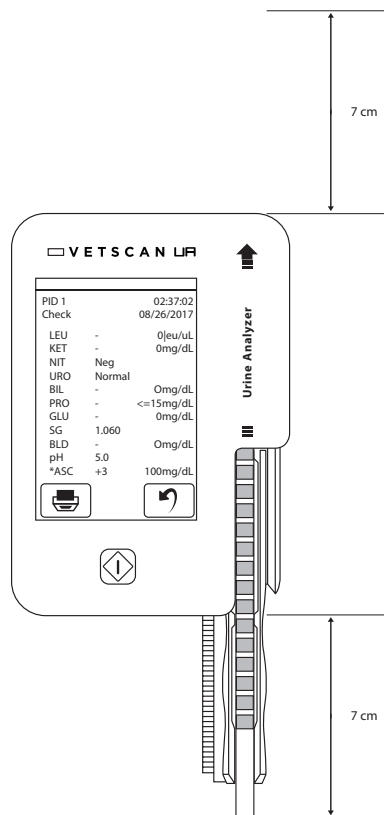

Fig. 7
3. Leave at least 7 cm in front of and behind the UA analyzer to allow for movement of the Strip Tray during operation. (Fig. 7)
3. Be sure to leave space at the ends of the UA to allow for movement of the Strip Tray. (Fig. 7)